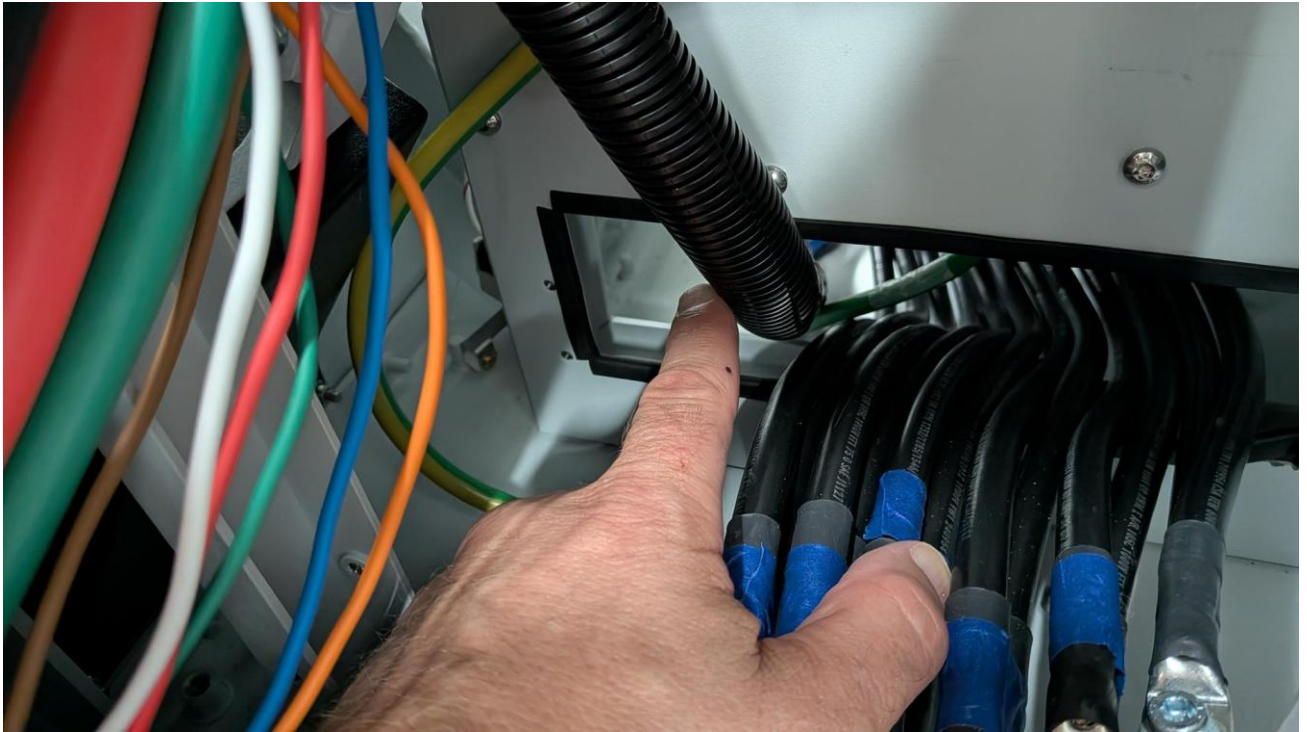

Figure 23
- 24.** Feed the wire ends into left side of opening shown in Figure 23 for termination.